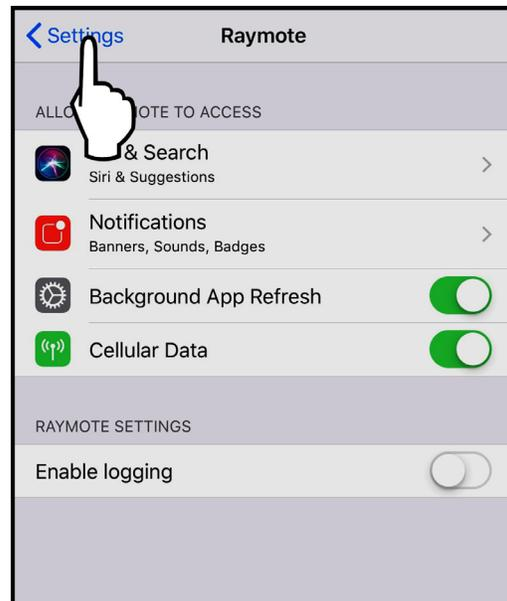

Figure 19. Select the Settings Menu
3. On the top left corner of the screen, press the "Setting" button to go the Setting menu. See **Figure 19**.